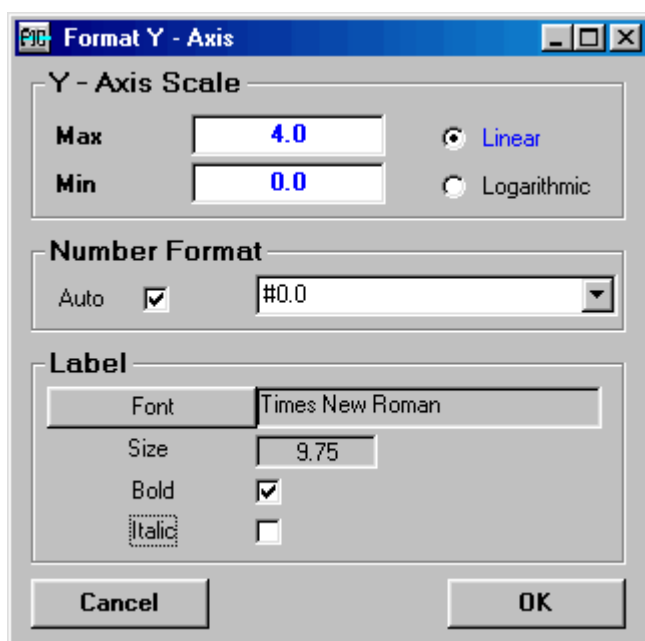

Fig. 12. Changing scales, scale number format and font settings.
1. Double click the x- or y-scale numbers or select **X-Axis** or **Y-Axis** from the **Format** menu to change, for example, the minimum and maximum values of the X- and Y-axis, see Fig. 12. In some cases it is also advantageous to change the y-axis to logarithmic scale in order to display the large variations in amounts or concentrations. From the same window you can change the number format of x- and y-axis numbers as well as their font size, color, etc.